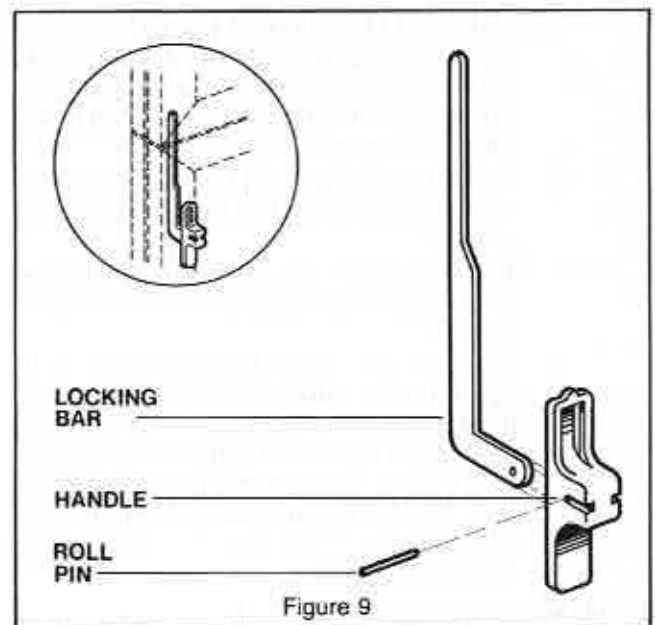

Figure 9
5. Remove roll pin securing plastic handle to locking bar. See Figure 9.